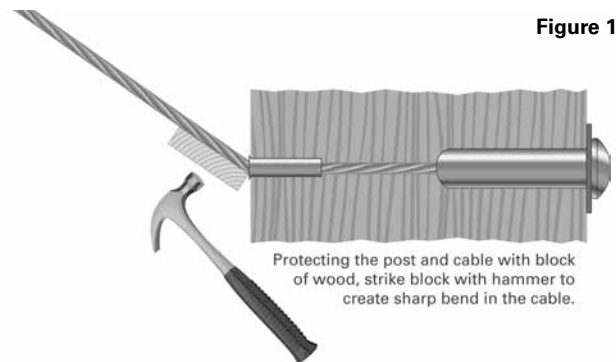

Figure 12
3. Move to Pull-Lock end of the run and you are going to create a sharp bend in the cable where it exits the Post Protector Tube by placing a block of wood (for protection of the post) on the cable next to the tube at the face of the post and striking it with a hammer. (Figure 12) This will create the sharp bend we are looking for.